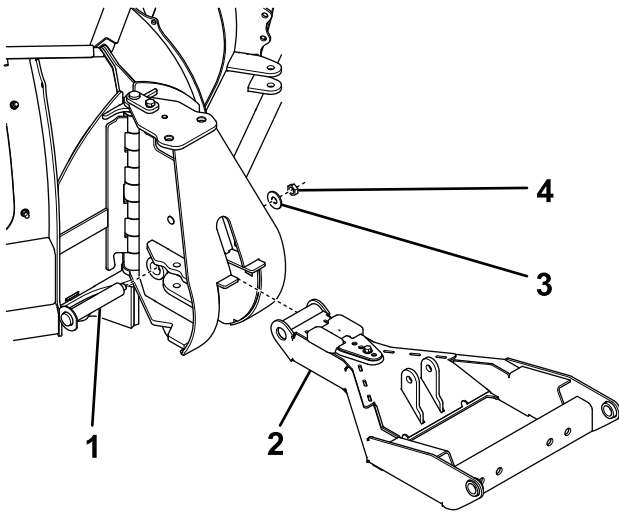

Figure 6
- Remove the horizontal hinge pin, flat washer, and top locknut from the blade center (Figure 6).
- Slide the pushframe into the blade center (Figure 6).
- Apply threadlocking compound to the previously removed horizontal hinge pin, flat washer, and top locknut, and secure the pushframe to the blade center with them (Figure 6).